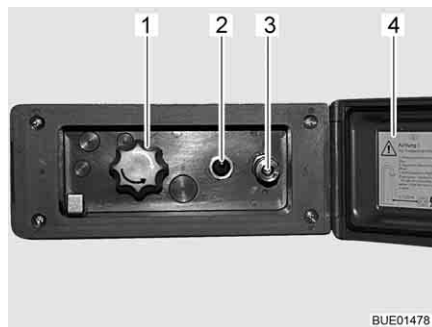

Fig. 105 External shower connection point
- Unlock and open the cover (Fig. 105,4).
- Attach hose of the external shower to the quick closure (Fig. 105,3).
- Switch on the water pump using the switch (Fig. 105,2).
- Adjust the water temperature with the rotary knob (Fig. 105,1) as desired.
- Switch off the water pump using the switch (Fig. 105,2).
- Close the cover (Fig. 105,4) and lock with key.
- Turn knob (Fig. 105,1) to the centre position.